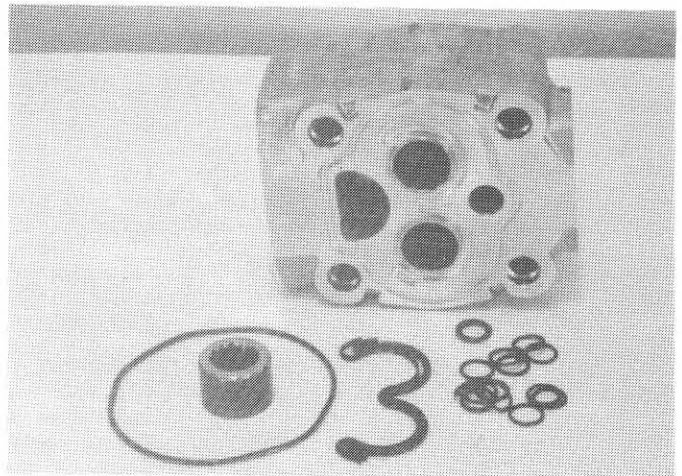

FIG. 13
15. Remove shaft coupling (17) from the suction port in the bearing plate. Remove o-ring stud stabilizers (16) from dowel bores in the bearing plate. Remove bearing plate o-ring (10), pressure balance o-ring (9), and nylon back-up strip (8). (Fig. 13)